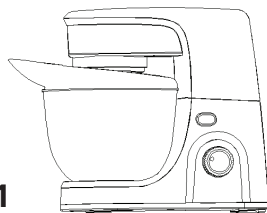

Fig. 1
4. Place bowl into position on the base, then turn the bowl clockwise until it locks into position (see fig.1).
6. To use the splash guard lift the head of your mixer and fit onto the top of the mixing bowl. (see fig.1).